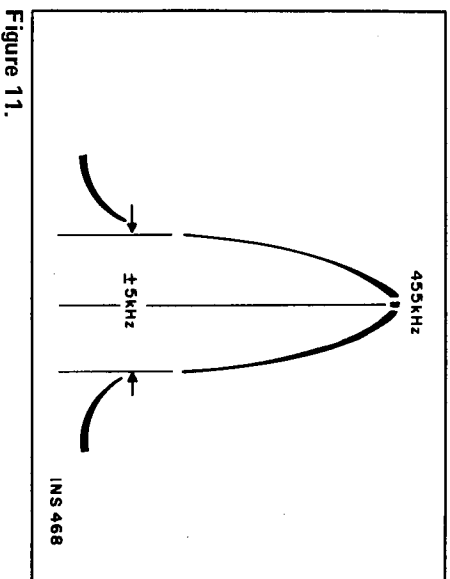

Figure 11.
- (1) Connect 455 kHz sweep generator to pin 7A (on AM RF board). Use a 0.1 uF capacitor in series with the generator lead. Connect generator ground to pin 7C.
- (2) Connect vertical input of scope to Test Point 302 (pin 3Q on AM/FM IF, MPX board). Connect scope ground to pin 3G. Set scope vertical input sensitivity to approximately 200 mV/cm.
- (3) Adjust generator level and sweep to observe IF response curve. Set generator output as low as possible.
- (4) Adjust top and bottom cores of Z303, Z301 (on AM/FM IF, MPX board), and Z701 (on AM RF board) for maximum gain and symmetry. Repeat alignment until maximum gain and symmetry are obtained (see Figure 11).